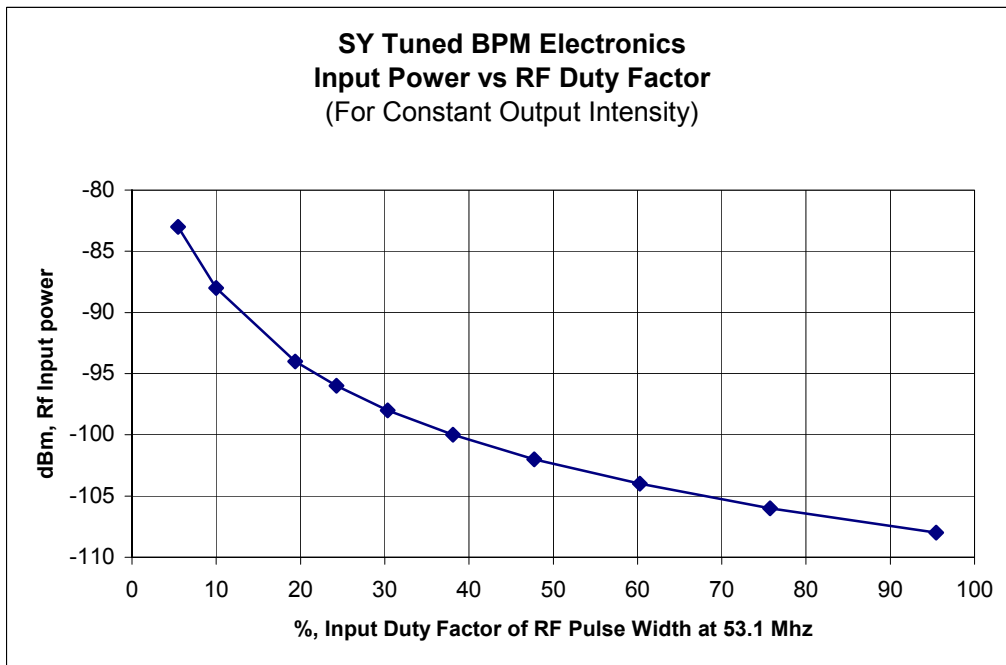
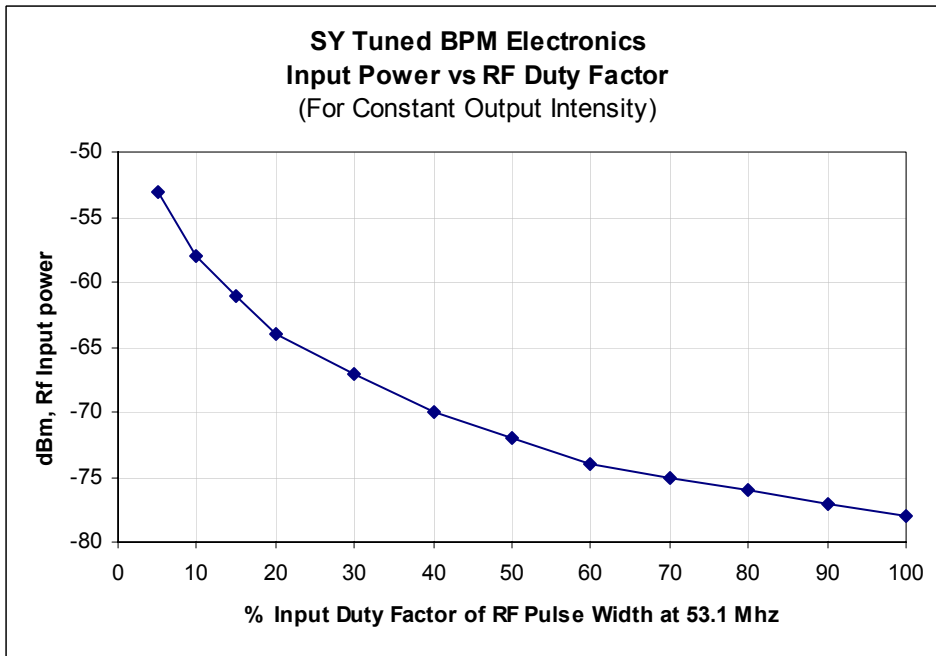

Fig. 2
Fig. 4
2. The RF input power level in relation to RF input Duty Factor. With the input power adjusted to maintain a constant intensity output, equal to the 100 % DF power level. This was done three different reference power levels. Charts in Fig. 2 thru Fig 4 show the results and the exponential curve produced. This test was done using test setup No. 2.